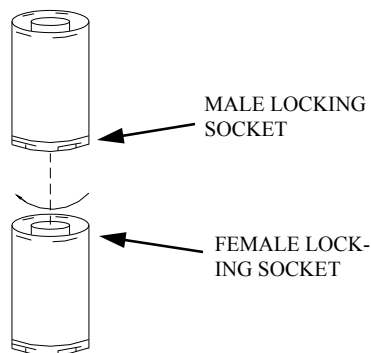

Figure 4
- ◆ Twist-lock procedure: Four indentations, located on the female ends of pipes and fittings, are designed to slide straight onto the male ends of adjacent pipes and fittings, by orienting the four pipe indentations so they match and sliding into the four entry slots on the male ends (Figure 4). Push the pipe sections completely together, then twist-lock one section clockwise approximately one-quarter turn, until the two sections are fully locked.